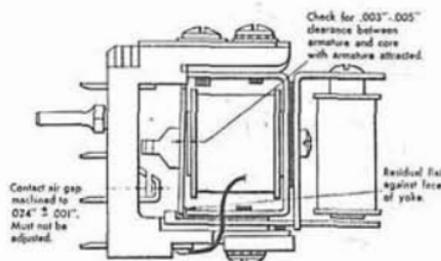

Figure 21. Adjustment 1
- Figure 21. Contact air gap is machined to $.024'' \pm .001''$ and should not be adjusted. Any attempt to change this gap will result in an out-of-parallel condition and prevent proper contact in all positions. Check for a clearance of .003" to .005" between the armature and core with armature attracted. Adjustment for this clearance forming the center section of the armature. The residual must be flat against the face of the yoke, and the armature and core must be free of dirt or metal chips to insure good operation. Position the yoke to provide approximately .050" travel at the free end of armature. This is merely a starting point and may be changed to satisfy subsequent adjustments.